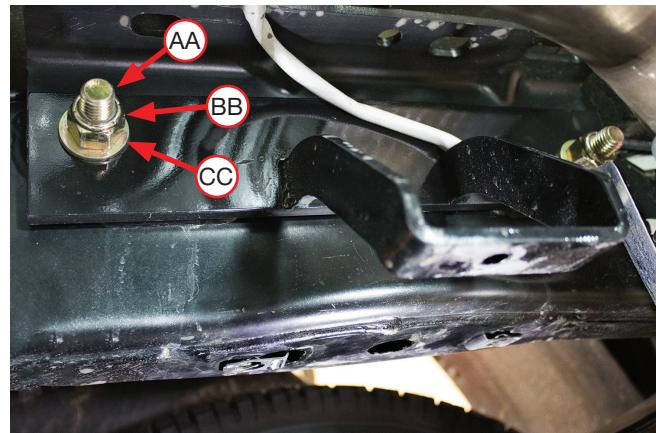

Fig. 29
10. Remove the factory fifth wheel hitch hardware (if equipped), from the holes in the side of the frame. Using the existing holes in the frame, attach the upper frame brace (F) to the frame using the factory hitch hardware removed or the 5/8" (AA, BB, CC) hardware supplied (Fig. 29). Leave loose at this time.